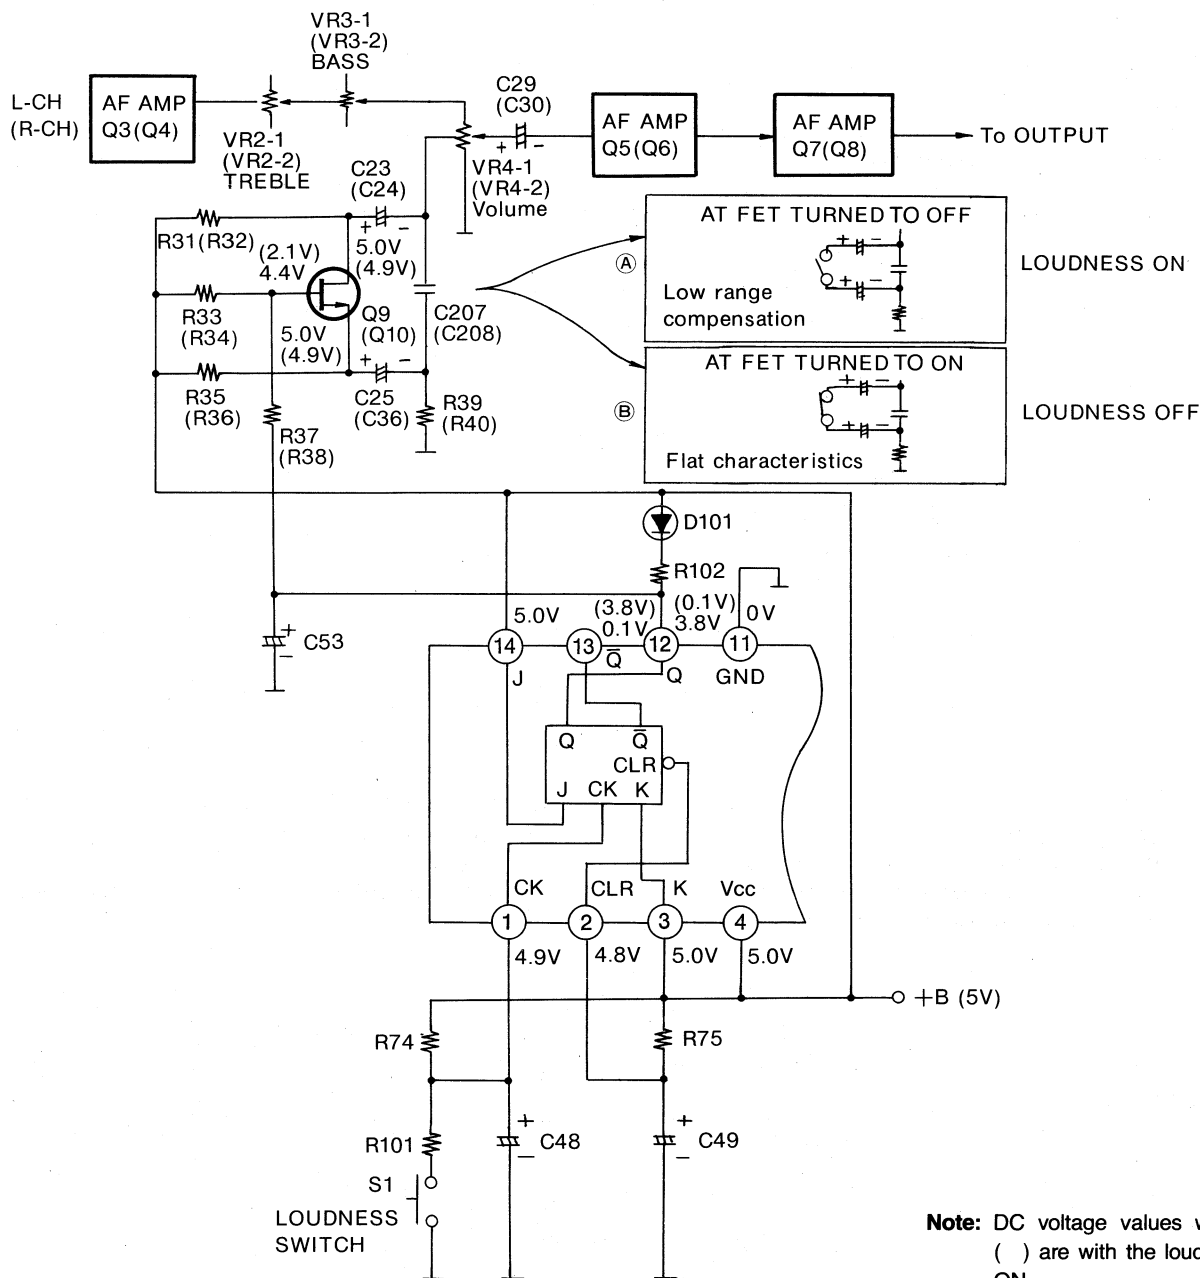

Fig. 34 Loudness-control circuitry-Preamp
1. In the circuit shown in figure 34, when the power source is turned on, the output "Q" of the J-K flip-flop becomes "L" therefore the gate voltage of the FET switch Q9 (Q10) becomes low level, and Q9 (Q10) is off at this time.
2. When Q9 (Q10) is off, the source-drain interval of Q9 (Q10) is opened, so it can be expressed by equivalent circuitry such as shown in Fig. 34 (A).
3. As can be seen in the circuit shown in Fig. 34 (A), the mid- and high range is decreased by C207 (C208) to the level set by R39 (R40), and, as a result, the low range becomes the increased frequency response.
7. In the circuit shown in Fig. 34 (B), the electrostatic capacity of the electrolytic condenser is set very big compared to C207 (C208), and, for that reason, the AF signal frequency response becomes flat to the level determined by R39 (R40).